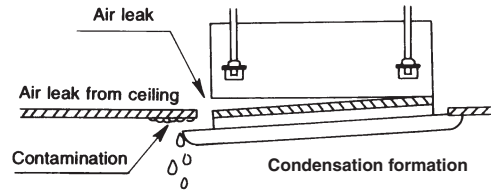

Fig. 5
- Tighten screws properly to prevent problems shown in Figure 5.